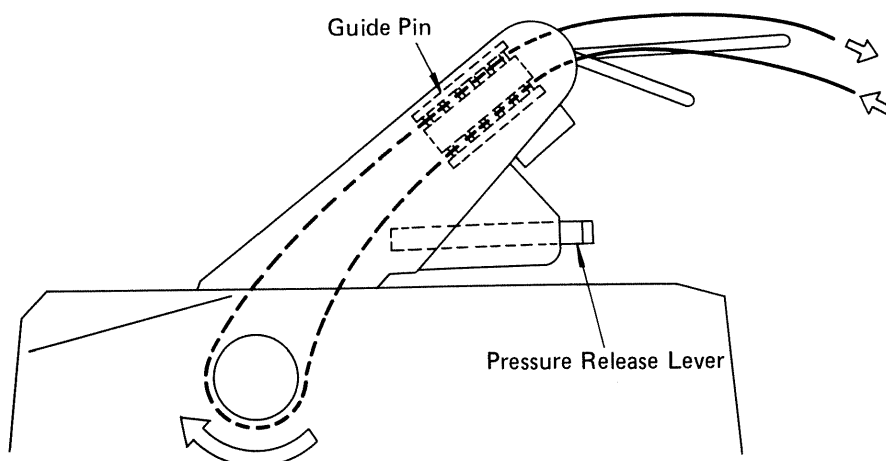

Figure 6
9. Advance the paper by turning the Platen so that the paper exits over the top of the Upper Paper Net. (See Figure 6)